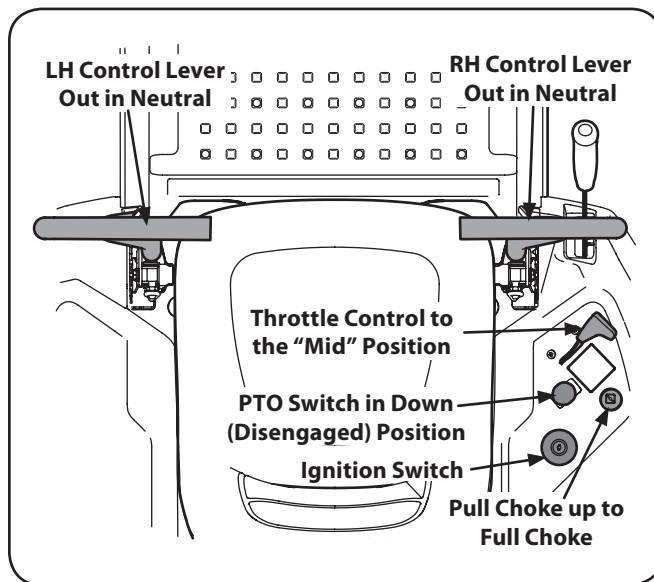

Figure 5-1
2. Make certain the PTO switch is in the disengaged (down) position. Refer to Fig. 5-1.
3. Move the choke control or throttle/choke control into the full choke position. Refer to Fig. 5-1.